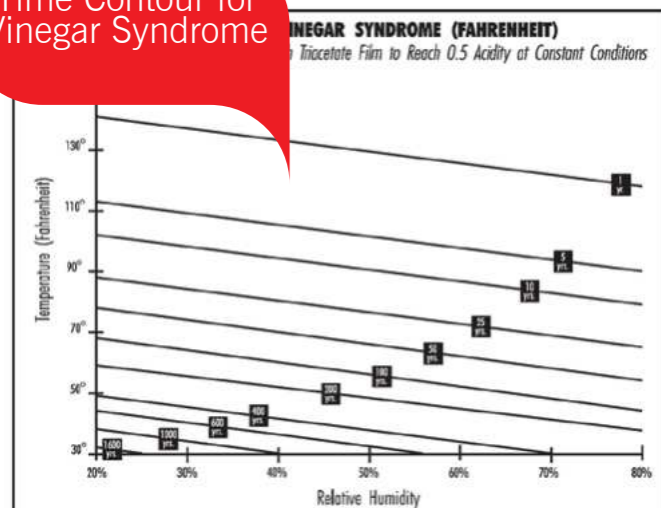

Figure 3
- One reason for warped and buckled film is acetate decay or vinegar syndrome. A number of environmental factors can contribute to the decay of the base of acetate film including heat and humidity (Figure 3). The film base will begin to shrink which will make the emulsion layer